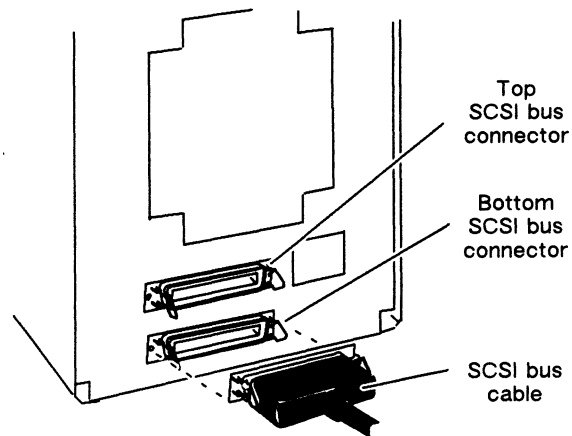

Figure 2-19 Top and Bottom SCSI Bus Connector on Back of Mass-Storage Subsystem
3. Plug the other end of the SCSI bus cable into either the top or bottom SCSI bus connector located on the back of the mass-storage subsystem, as shown in Figure 2-19. It does not matter which connector you choose.